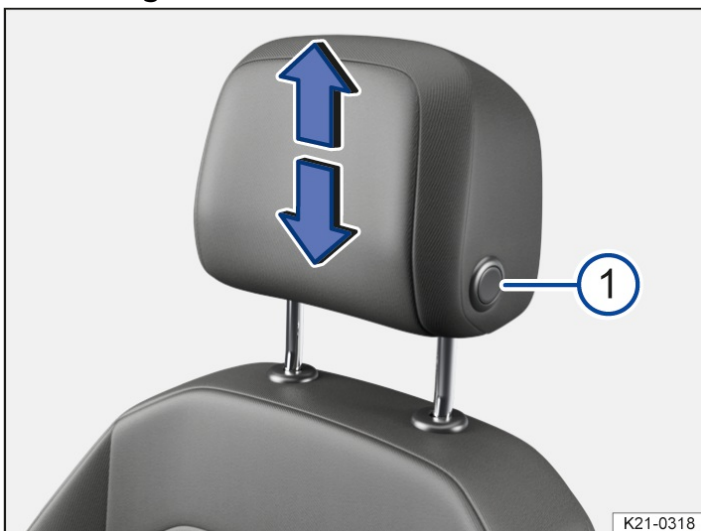

Fig. 1 General example: removing the front head restraint without forward/backward adjustment.
3. Pull the head restraint all the way out while pressing the → *fig. 1* ¹ button fully.